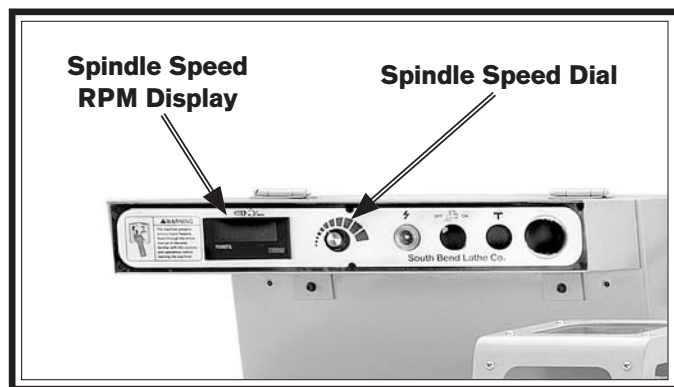

Figure 66. EVS spindle speed controls.
4. Turn the spindle speed dial shown in **Figure 66** all the way counterclockwise to set it to the minimum speed.